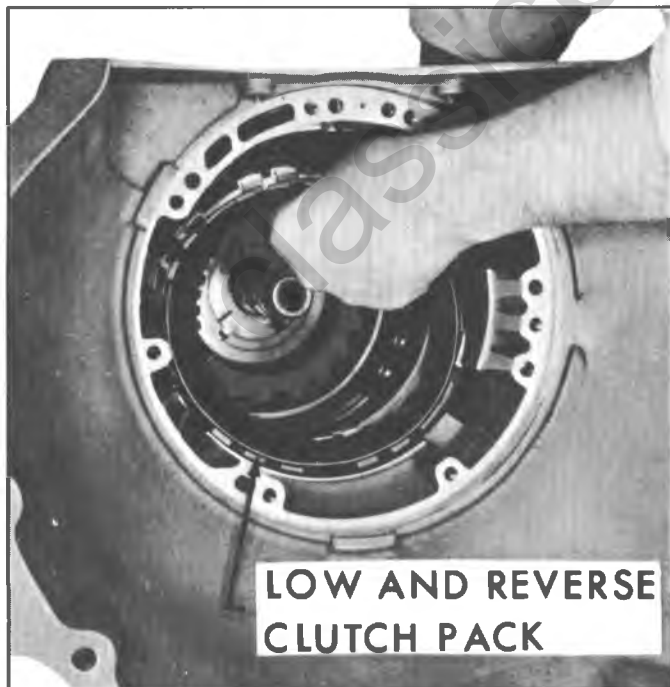

Fig. 39N--Removing Low and Reverse Clutch Pack
15. Remove low and reverse clutch faced plates and steel reaction plates (fig. 39N).